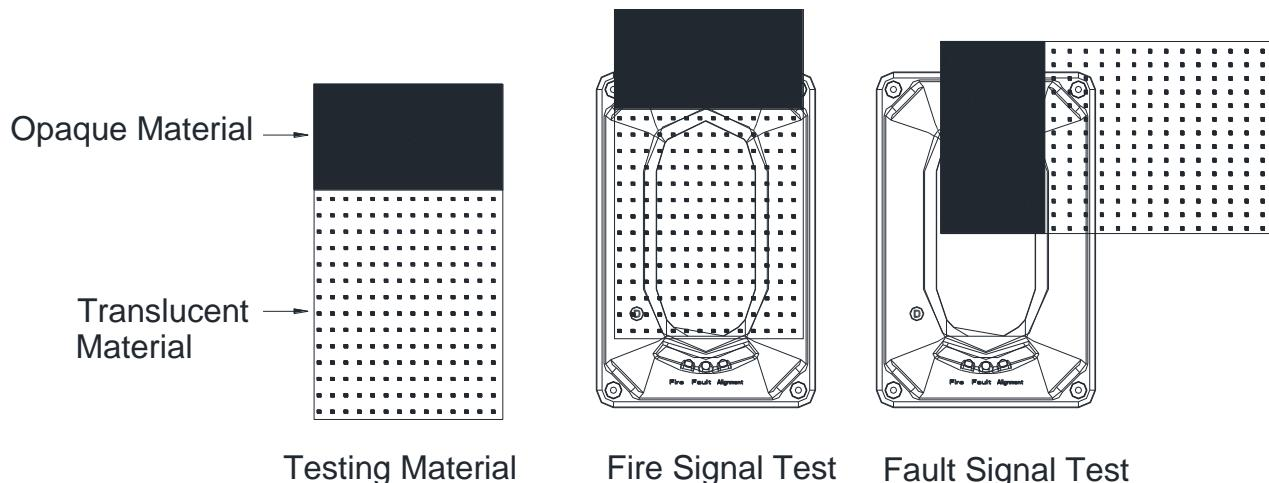

Figure 11: Testing Details
- a. Using supplied Opaque/Translucent materials, block the half of the beam detector with the translucent portion of the material. With less than 30 seconds the Red LED [Fire] will turn on steady, indicating Fire signal. [The fire alarm relay [HJ1 and HJ2 will latch to normally close]. Refer to Figure 11.]
- a. Using supplied Opaque/Translucent materials, block the half of the beam using the opaque portion of the material. Right after the Yellow LED [Fault] turns on, indicating the fault signal. [The fault alarm relay GZ1 and GZ2] will latch to normally close]. Refer to Figure 11.